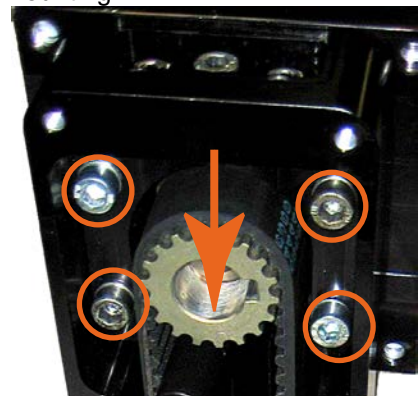

Figure 3
- ◆ Slightly loosen 4 screws ((Figure 2 Pos.7) by 1 or 2 turns. see figure 3).